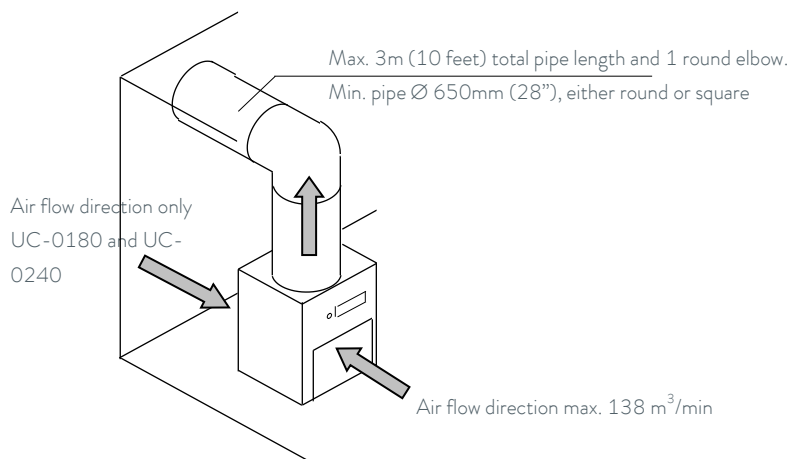

Fig. 2
**Figure 2** shows the maximum length that the air from the chiller can be conducted if the room has not an appropriate ventilation system. In this case it is still necessary to install a ventilation grid facing the condenser(s) with a minimum surface of 0.75 m2 (8 square feet).